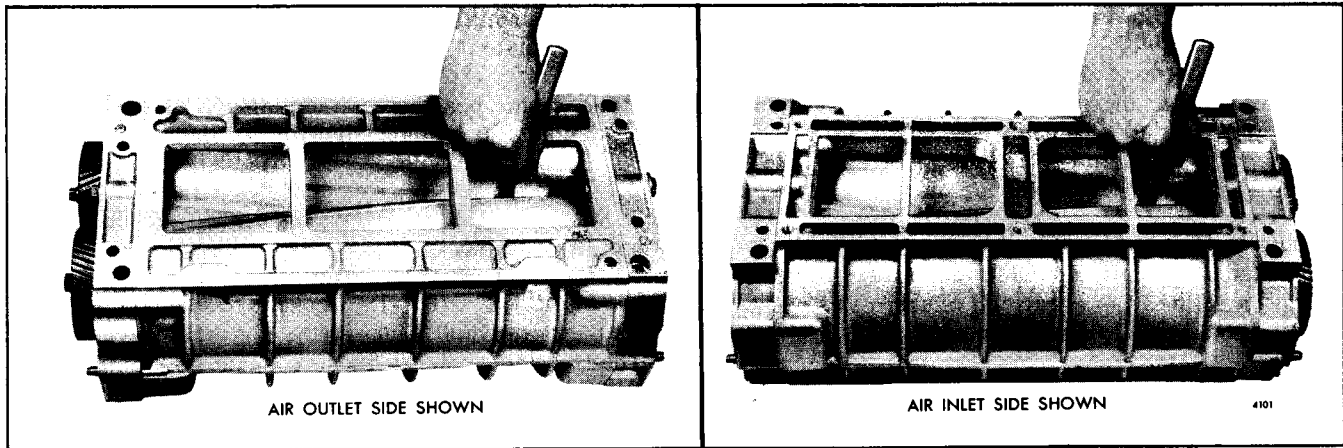

Fig. 18 - Measuring Clearance Between Blower Rotor Lobes
4. The clearance between the rotor lobes may be checked with 1/2" wide feeler gages in the manner shown in Fig. 18. When measuring clearances of more than .005", laminated feeler gages that are made up of .002", .003" or .005" feeler stock are more practical and suitable than a single feeler gage. Clearances should be measured from both the inlet and outlet sides of the blower.
- a. Time the rotors to pass an .008" feeler gage at the closest point between the *trailing* edge of the right-hand helix rotor and the *leading* edge of the left-hand helix rotor ("CC" clearance) measured from both the inlet and outlet sides as shown in Figs. 18 and 21.